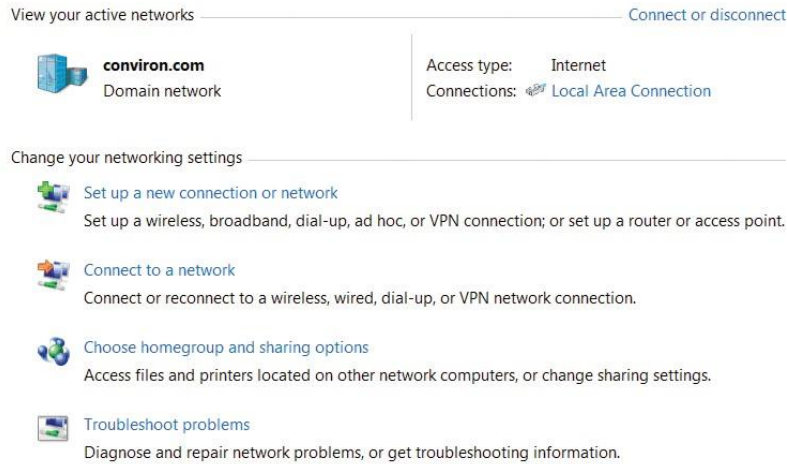

Figure 9-4 Local Area Connection
2. Click the **Local Area Connection** where the control system is connected (Figure 9-4).